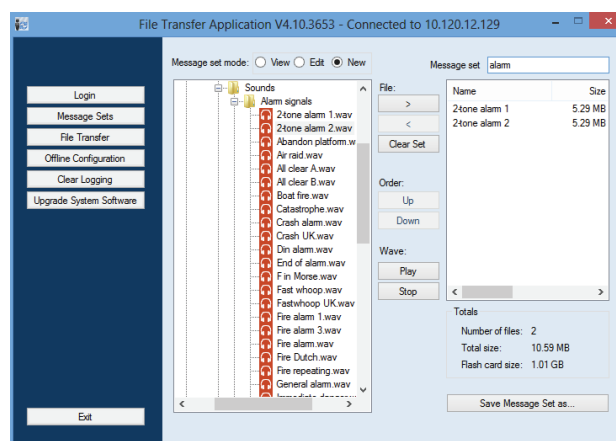

figure 45.9: Creating a message set
- 2 In the *File Transfer Application*, click the *Message Sets* button. A screen similar to the one in figure 45.9 appears.